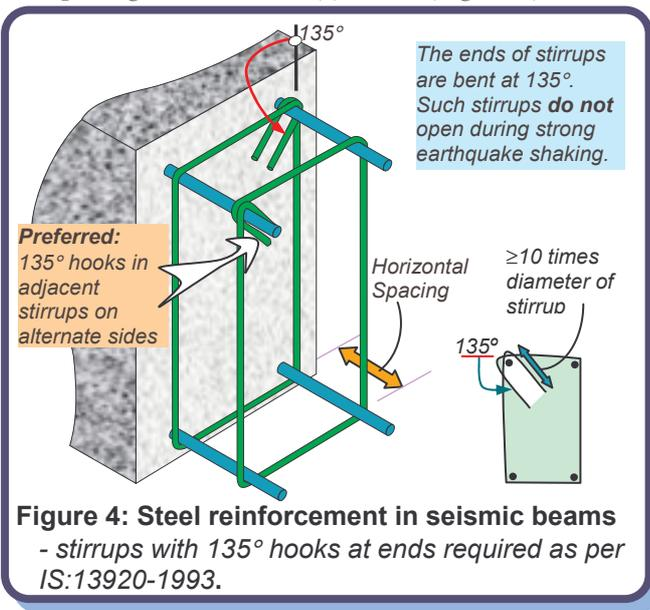

Figure 4: Steel reinforcement in seismic beams - stirrups with 135° hooks at ends required as per IS:13920-1993.
- (b) Both ends of the vertical stirrups should be bent into a 135° hook (Figure 4) and extended sufficiently beyond this hook to ensure that the stirrup does not open out in an earthquake.